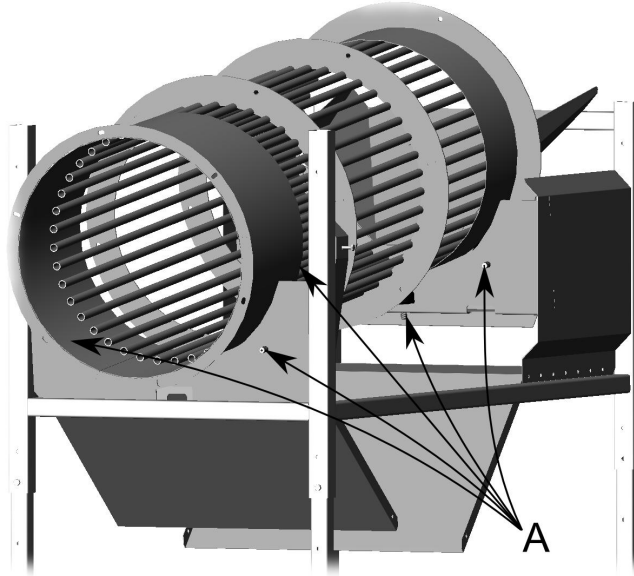

Fig. 6.
- The rotation of the debris drum is supported by five rubber wheels. The shafts A (Fig. 6) of these wheels must be lubricated regularly.